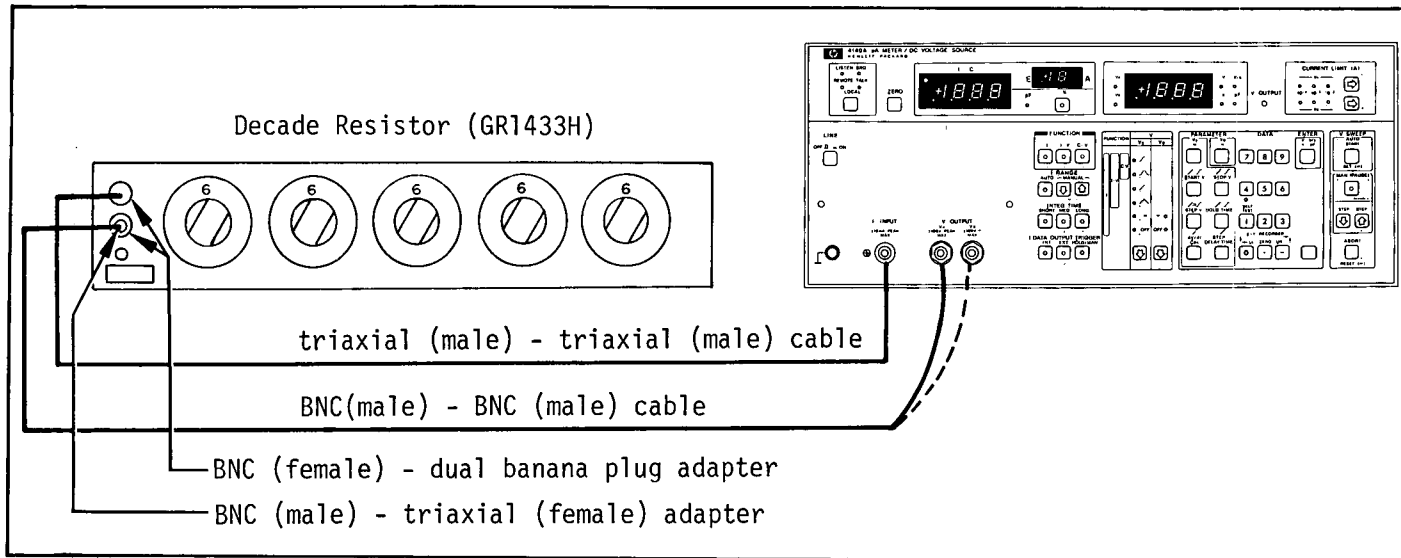

Figure 4-4. Current Limit Test Setup.
1. Connect Decade Resistor between V_A OUTPUT and I INPUT connectors of 4140A as shown in Figure 4-4.
- V_A == (DC)
- V_B == (DC)